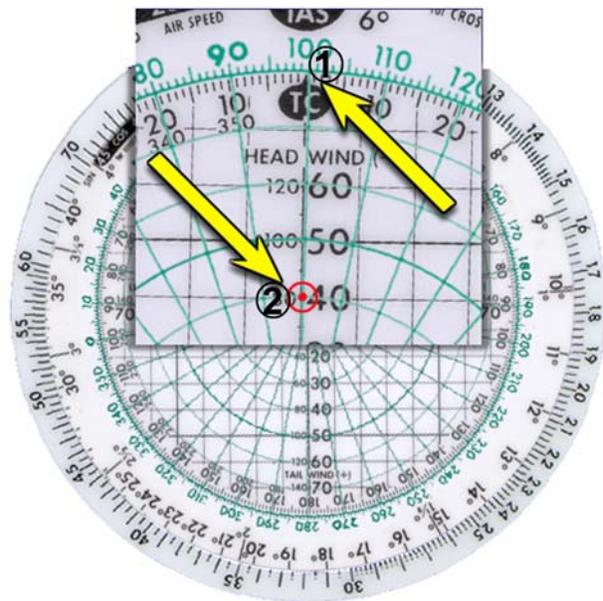

Figure 4.5-12 Preflight Wind Calculation 1
1. Plot the wind by setting the wind direction (100°) on the inner wheel on top of the TC arrow (Figure 4.5-12).
2. Choose the appropriate scale (lg. or sm.) and mark the velocity (40 kts) with a dot. Circle the dot to make it more visible (Figure 4.5-12).